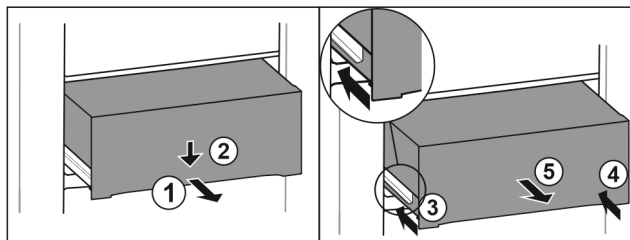

Fig. 106
- Pull out drawer half-way. Fig. 106 (1)
- Push the drawer down at the front. Fig. 106 (2)
- Push the left rail in by about 2 cm. Fig. 106 (3)
- Push the right rail in by about 2 cm. Fig. 106 (4)
- Remove drawer to the front. Fig. 106 (5)